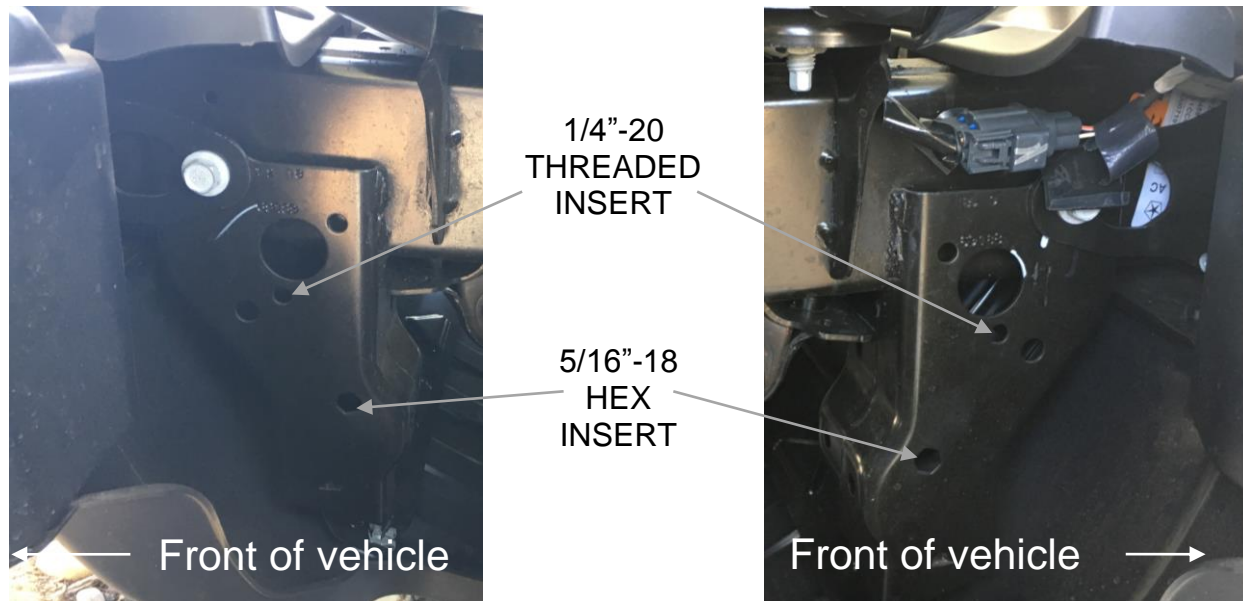

Figure 4 – Driver side
- D. For the driver side, insert the nutsert into the hole shown in Figure 4. For the passenger side, insert the nutsert into the hole shown in Figure 5.
- H. For driver side, insert the nutsert into the hole shown in Figure 4. For the passenger side, insert the nutsert into the hole shown in Figure 5.